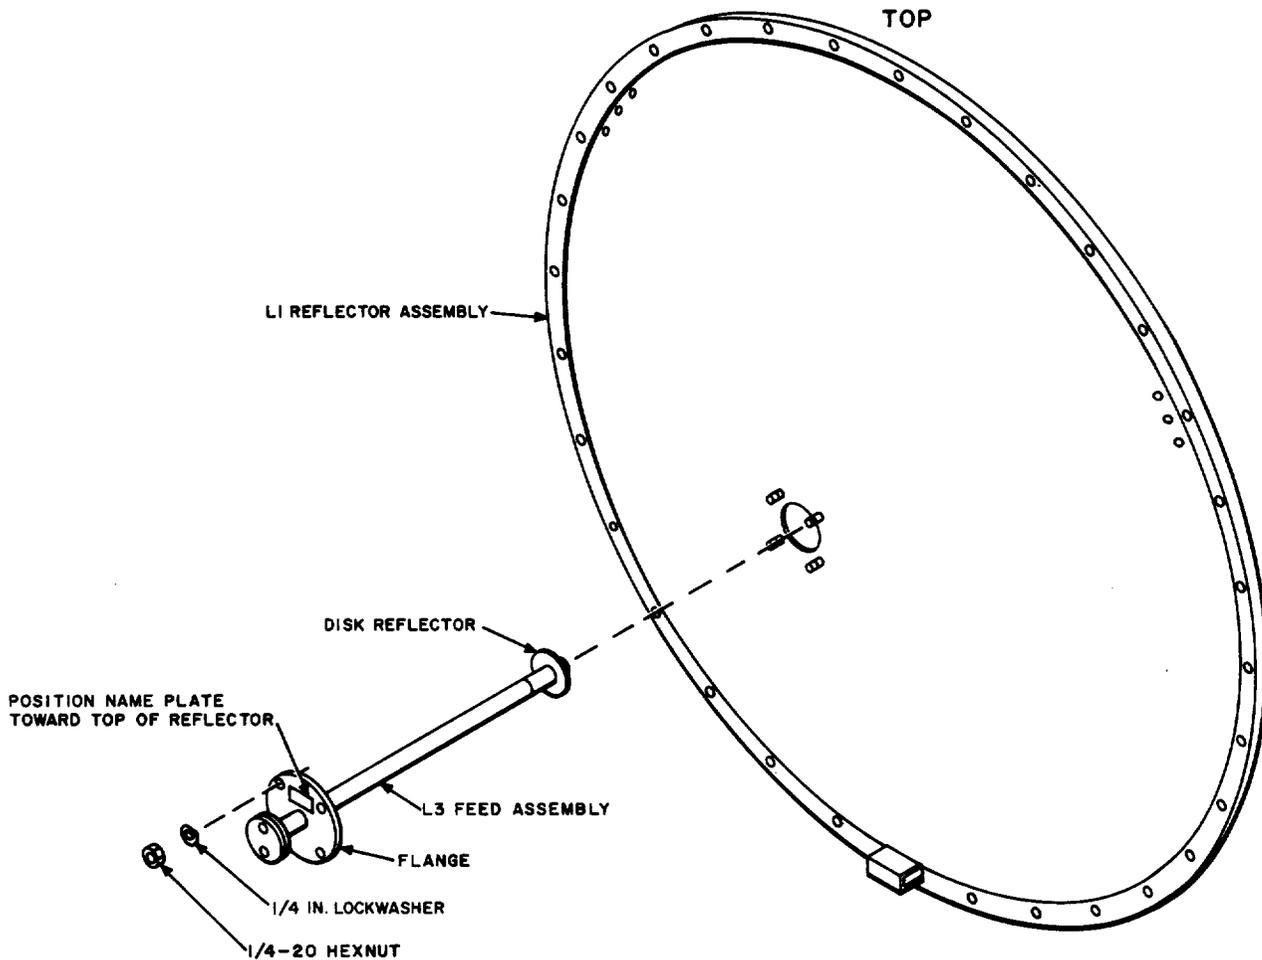

Fig. 2—Installation of L3 Feed Assembly into L1 Reflector
4.02 Insert the feed assembly, disc reflector first, through the mounting hole in the ring assembly of the antenna reflector (Fig. 2). The nameplate on the feed assembly should face the top of the reflector for optimum transmitting and receiving characteristics.